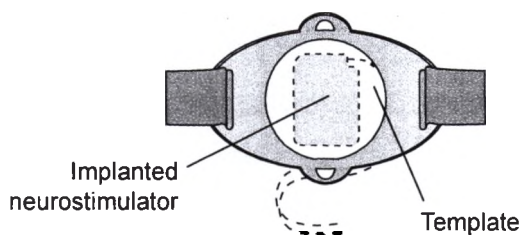

Figure 2.2 Place the belt or holster over your neurostimulator.
- Based on the position of your implanted neurostimulator, you might need to use more than one template (Figure 2.2) to ensure the antenna remains positioned correctly over your neurostimulator.
2. Put on your belt or holster, with the template or opening centered over your neurostimulator (Figure 2.2) and secure it in place. Reposition the template or opening, if necessary.